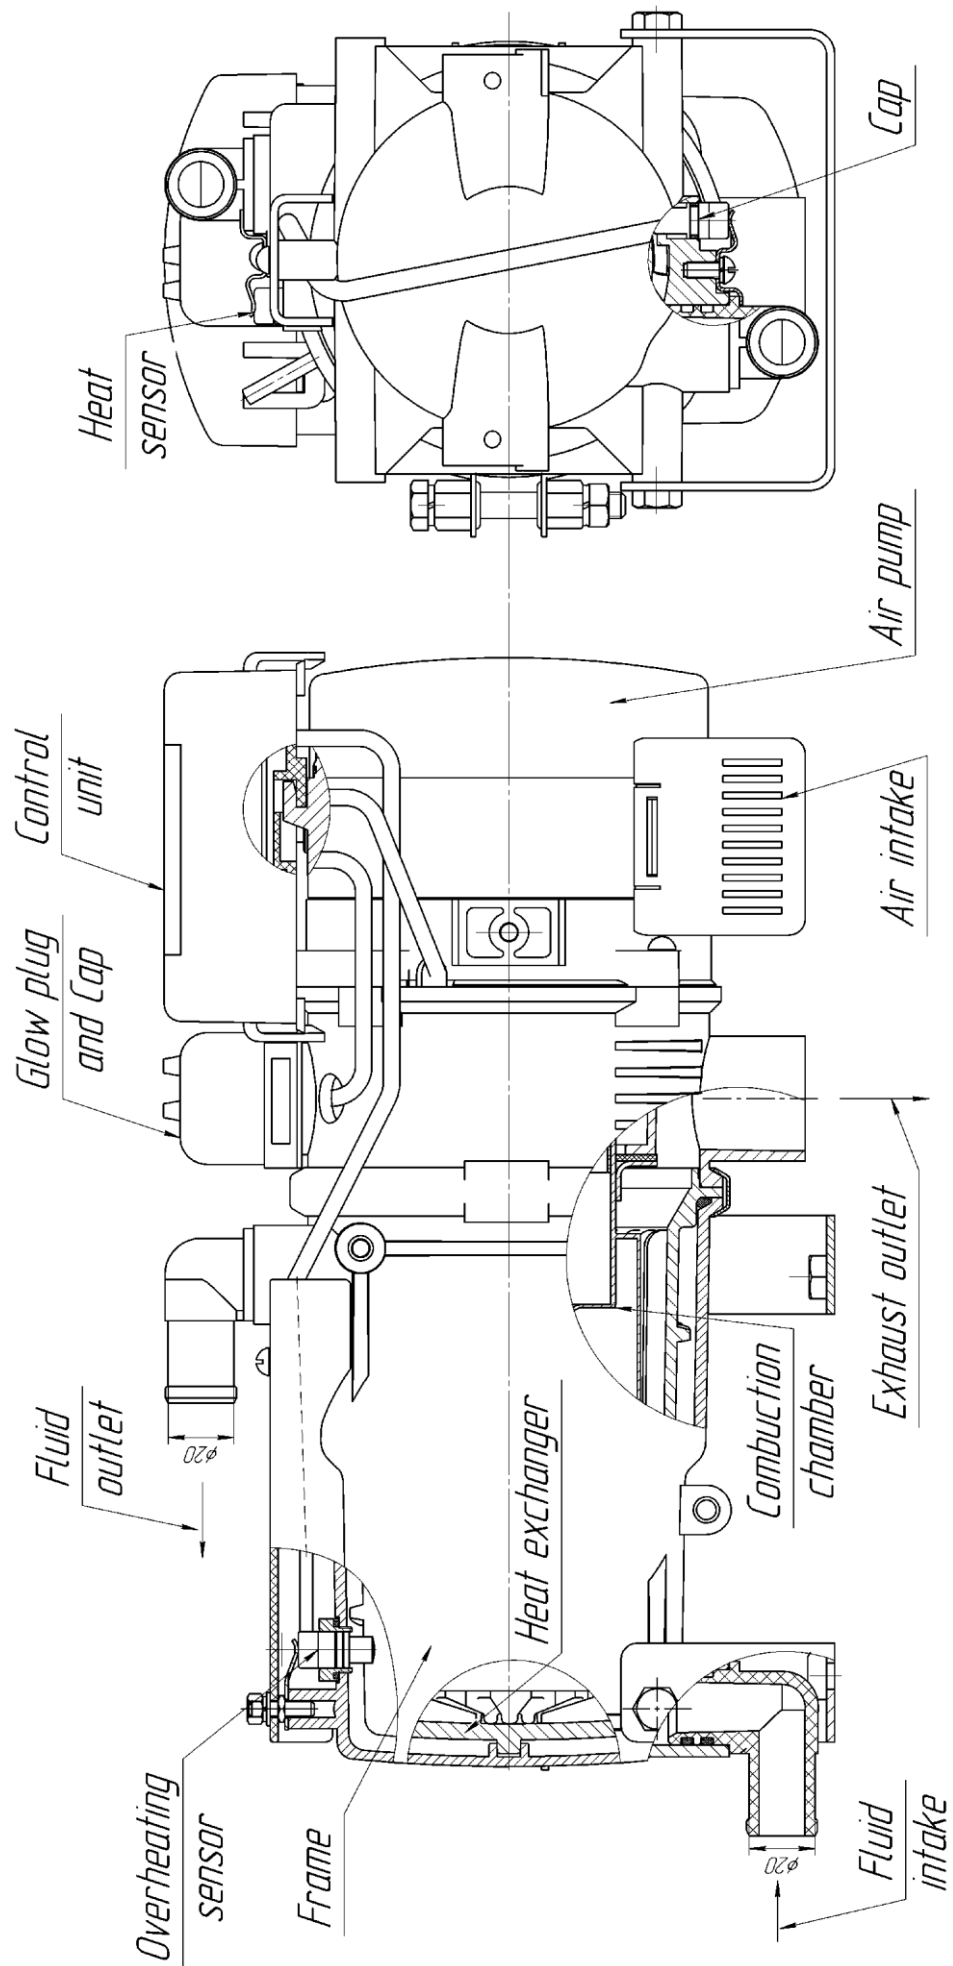

Figure 4.3 – Pre-heater basic components
- heater (main components are given in Figure 4.3);